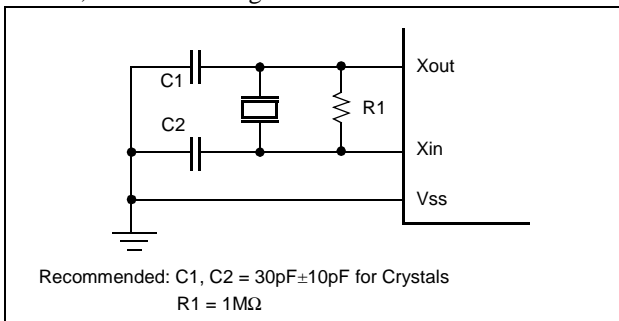

Figure 14-2 Oscillator Connections
XIN and XOUT are the input and output, respectively, a inverting amplifier which can be set for use as an on-chip oscillator, as shown in Figure 14-2 .
**Note:** When using a system clock oscillator, carry out wiring in the broken line area in Figure 14-2 to prevent any effects from wiring capacities.